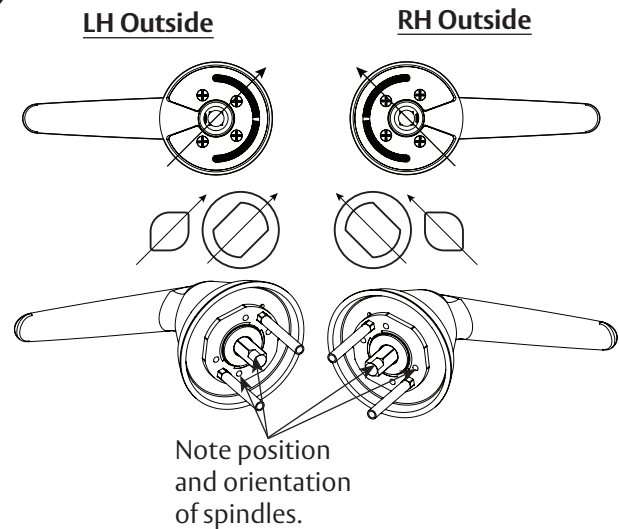

Figure 9
- Once assembled, spindle orientation should be as shown. (Figure 9)